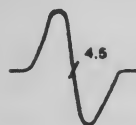

Fig. 7-5. Discriminator response curve.
The discriminator full load is wired across the cathodes and the audio output is taken from the ungrounded cathode. This discriminator has a linear output *vs* frequency characteristic over the range of its operation (see Fig. 7-5).
The frequency response of the ratio detector is the same as that of the discriminator (see Fig. 7-5).
(1) Follow the first four steps as outlined in procedure for taking video i-f response (see Chapter 6).
(2) Couple the output of the sweep generator through a 0.01-mf capacitor to the output of the video detector. This will be the plate in most instances. Occasionally, the cathode is used as the output.
(3) Inject marker signal into the circuit, as previously instructed. Marker should be calibrated at 4.5 mc.
(4) Adjust generator sweep frequency and width controls so that it is sweeping 100kc on either side of 4.5 mc.
(5) Set up the scope for proper viewing, using sweep voltage derived from the f-m generator. Blanking, if available, should be used.
(6) The scope direct probe, in series with a 50 K resistor, should be connected to the top of the volume control. Low side of scope should go to chassis ground.
(7) Adjust controls of all instruments for proper viewing. It may be necessary to vary the frequency of the sweep generator to locate the response curve. Turn volume control all the way down, or keep volume at low level.
(8) Maintain a low sweep and marker generator output, with high scope gain. Test for overloading by varying output of sweep generator.
(9) If the circuits are properly peaked, the familiar f-m detector response will be seen (Fig. 7-5).
(10) Vary the marker generator on either side of 4.5 mc. A pip will be seen on the curve on either side of 4.5 mc. It should disappear at 4.5 mc if the alignment has been properly carried out.